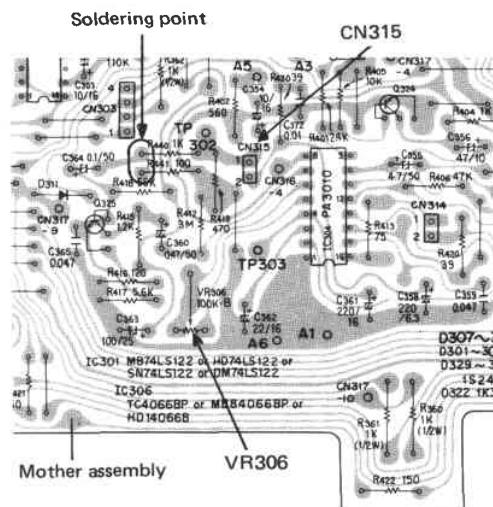

Fig. 12-7 Soldering point
2. If -10dBv is exceeded, bridge the section shown in Fig. 12-7 by soldering.